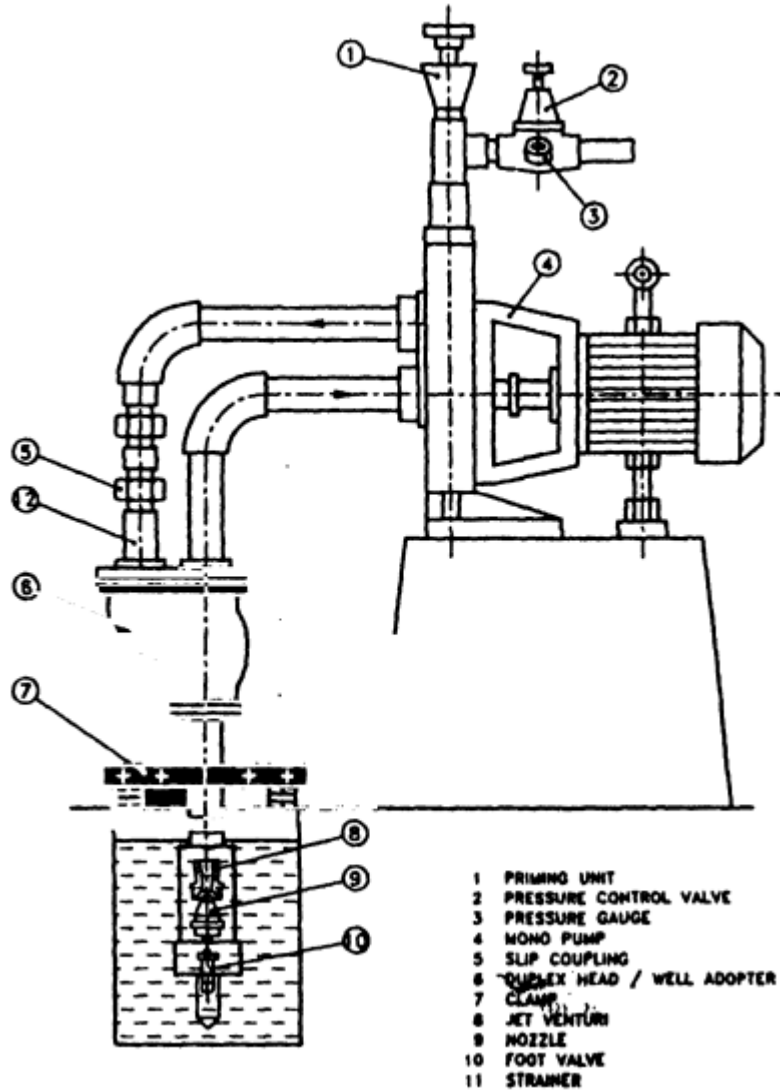

FIG. 3 TYPICAL FIELD INSTALLATION FOR DUPLEX TYPE JET CENTRIFUGAL PUMP COMBINATION
NOTE — Typical field installations for twin type centrifugal jet pump, packer type centrifugal jet pump, and duplex type centrifugal jet pump are given in Fig. 1, Fig. 2 and Fig. 3 respectively.
4.4 Installation of Duplex Type Jet Pump (see Fig. 3)